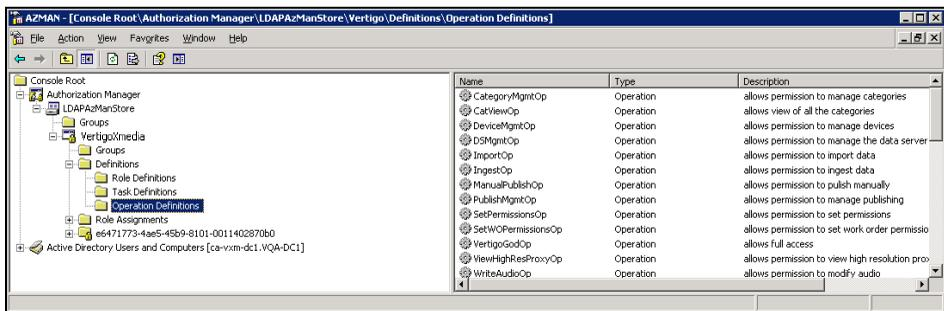

Figure 19-22. The operations that belong to AzMan's VertigoXmedia application
6. Select the **OPERATION DEFINITION** node. The right-side panel should now be populated with VertigoXmedia operations (figure 19-22).